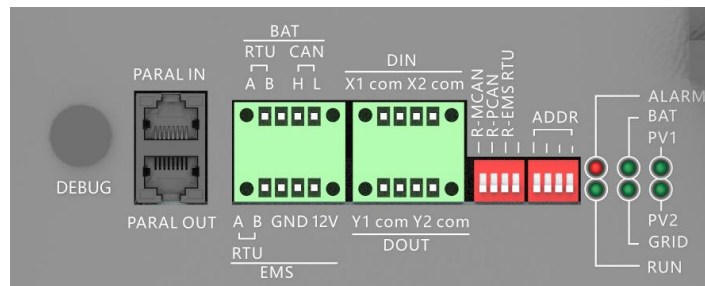

Figure 18
**The signal terminal interface definition is shown in Figure 18:**